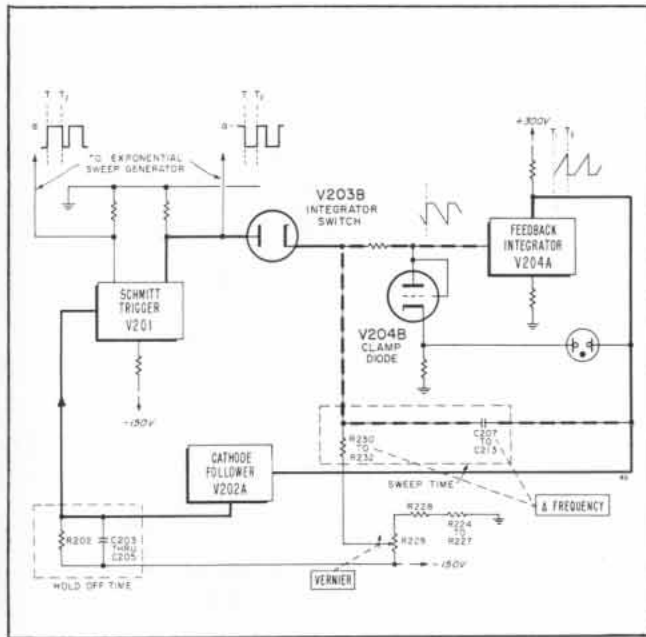

Figure 3-8. Simplified Schematic of Linear Sweep Generator
The Linear Sweep Generator (figure 3-8) consists of a Miller Feedback Integrator (V204A) which generates a linear voltage sweep whose slope can be adjusted by changing the charging rate of the integrator capacitor (C207 to C213). The Δ FREQUENCY (MC) range switch (part of which is shown in figure 3-8) changes the values of the integrator resistors (R230 to R232) and capacitors (C207 to C213) to obtain step changes in slope, while the VERINER (R229) on the Δ FREQUENCY (MC) switch varies the capacitor-charging voltage to provide slope adjustment between steps. The Feedback Integrator is started and stopped by Schmitt Trigger V201 which shunts the integration circuit to ground through Integrator Switch V203B to prevent sweeping, and releases it from ground to start a sweep.
The Feedback Integrator is made automatically recurrent, and the output is made constant in amplitude by operating the Schmitt Trigger (see figure 3-8) from the output of the Integrator. After being unlocked by the Schmitt Trigger, the integrating circuit charges to a predetermined level established by the sensitivity of the Trigger. At this level, the feedback voltage causes the Trigger to change state. The Trigger relocks the Integrator Circuit and terminates the sweep with a rapid flyback. Trigger tube V201A is held conducting for a predetermined period of time by a charge on C205 and supplementary capacitors to allow time for circuit recovery. As the capacitors discharge, Trigger V201 returns to its original state which, in turn, unlocks the Integrator Circuit so it can generate another sweep.